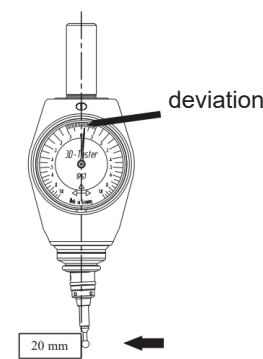

Figure 7
- Read the deviation between the pointer and "0" scale of 3D tester (Figure 7).